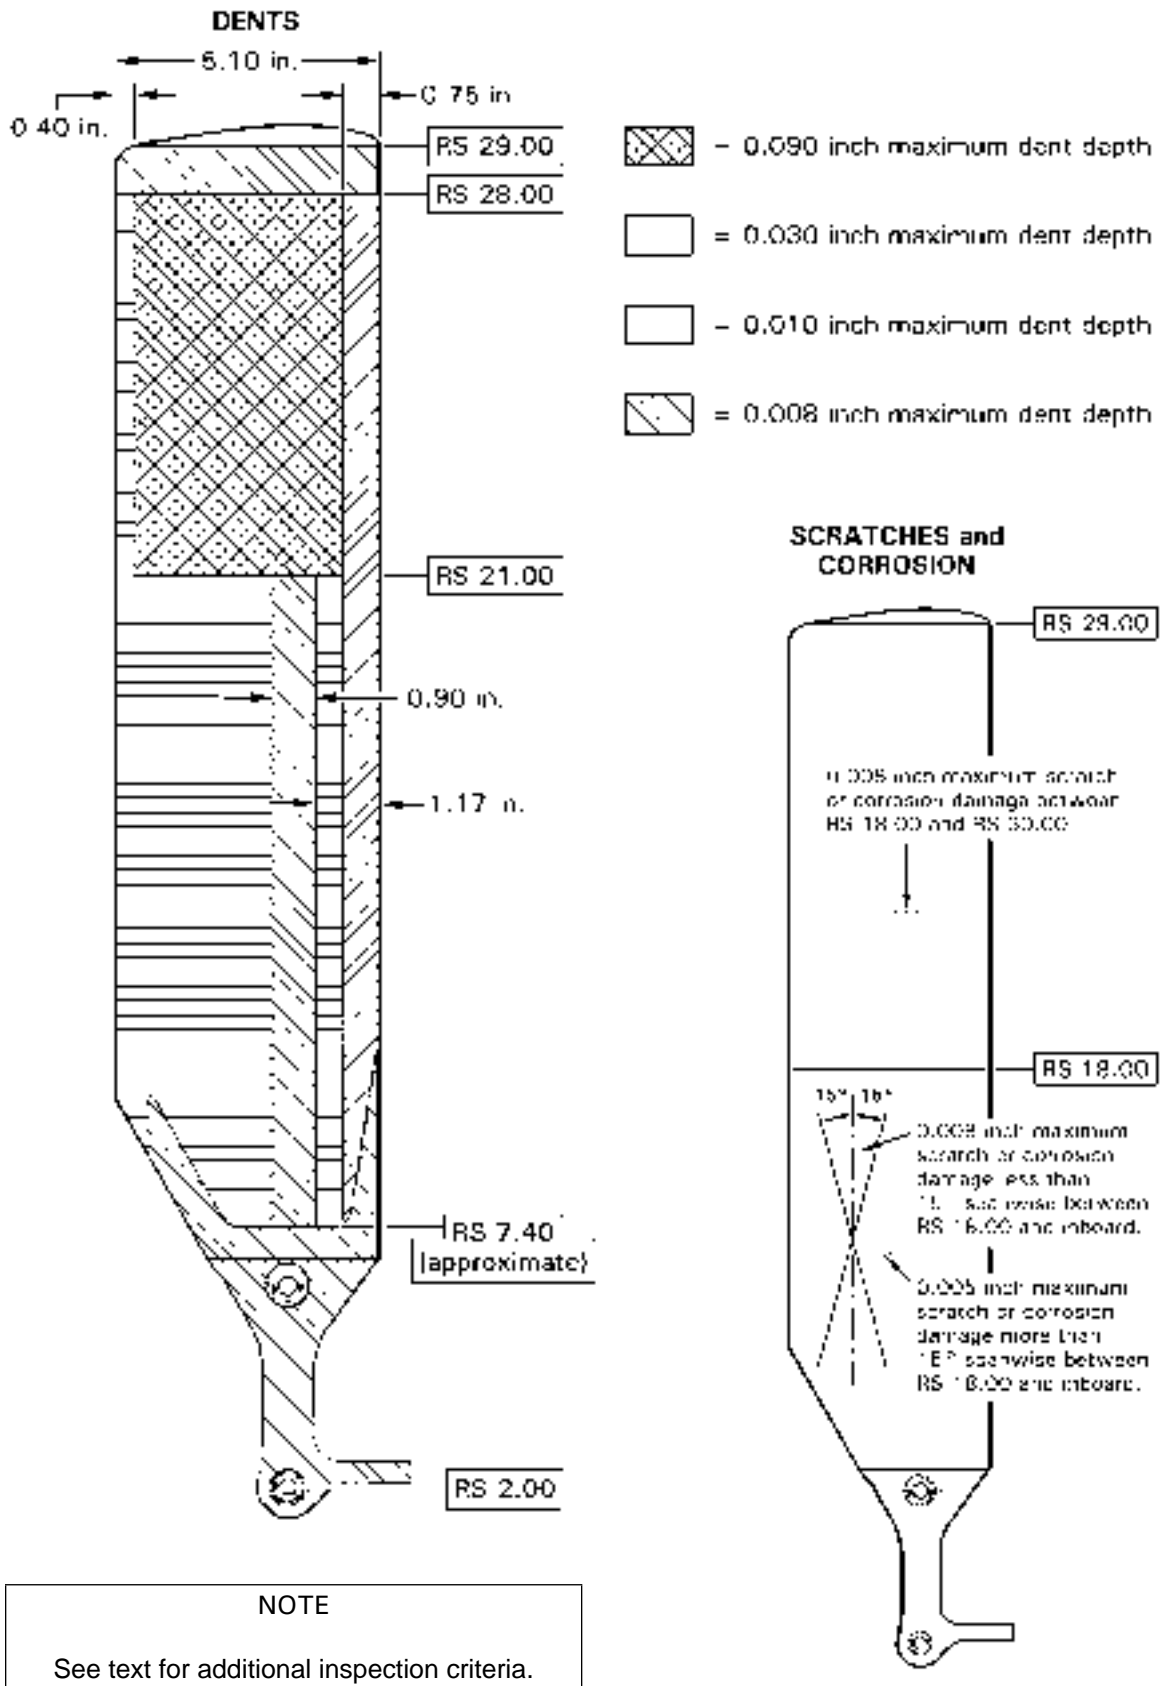

FIGURE 9-15 TAIL ROTOR BLADE INSPECTION CRITERIA
1. Refer to Figure 9-15. Verify damage does not exceed the following limits:
1. Refer to Figure 9-15. Smooth, round bottom dents with 0.060 inch minimum radius may be repaired when damage does not exceed the following limits: